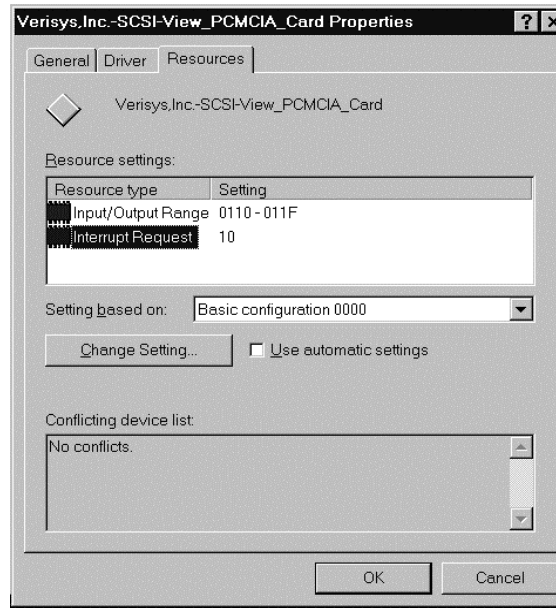

Figure 19
- Chose the Resources tab at the top of the screen.(Figure 19)